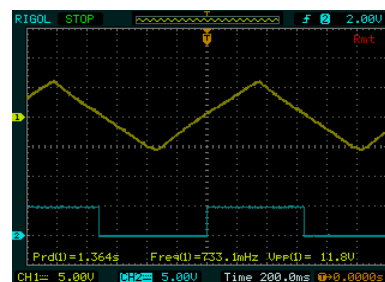

Figure 17.  $\leq 1\text{Hz}$  Triangle
18. Select the Triangle wave. Trigger a single sweep of the oscilloscope and verify the Triangle wave (CH1) and Clock output (CH2) frequencies are  $\leq 1\text{Hz}$  ( $\geq 1\text{SEC}$ ) and are non-distorted as shown in Figure 17.